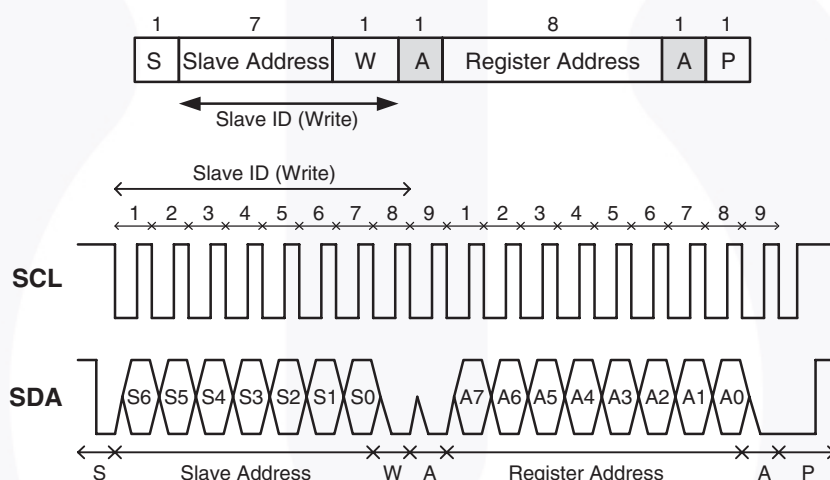
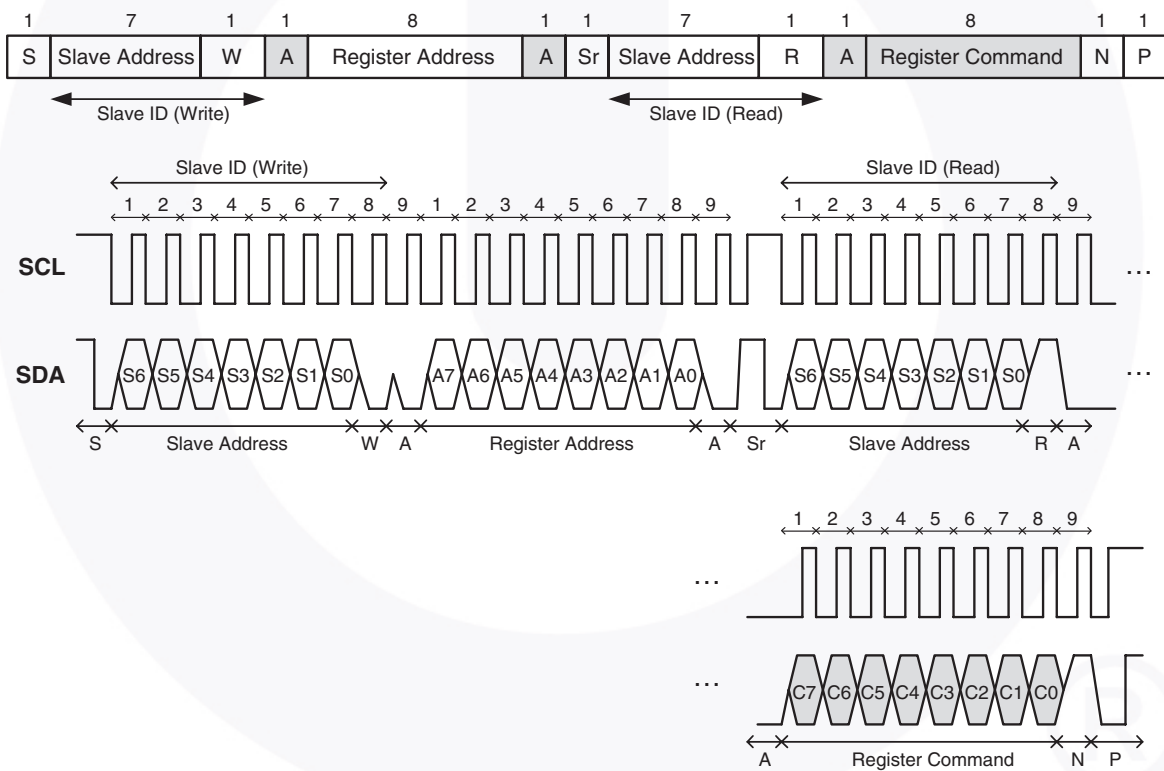

Figure 6. I²C Write Protocol (Type 1)
Figure 9. I²C Read (Combined Format) Protocol
- Figure 6 through Figure 9 outline the sequences for data read and write.